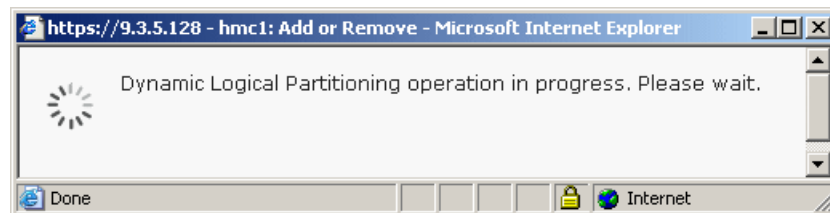

Figure 12-5 Dynamic LPAR operation in progress
3. Click **OK** when you are done. A status window as shown in Figure 12-5 displays.